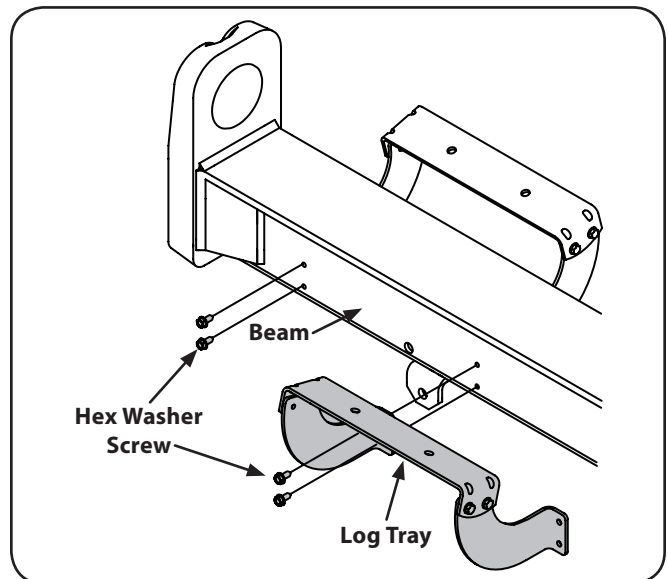

Figure 3-5
- Disconnect the log tray from the beam on the control valve side by removing the two hex washer screws that secure it to the beam weld brackets and the two hex washer screws in the beam. See Figure 3-5.